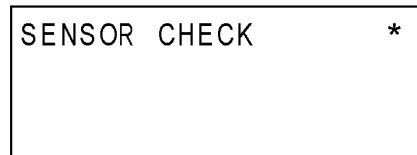

Fig. 7
- (2) If the source voltage falls into the specified voltage (22V through 26V), " O " will be displayed; if out of the range, "X" will be displayed.
- (3) Press the "RET" key. The machine reads the voltage, writes it into the EEPROM and then shifts to the Sensor Check Mode as shown in Fig.7.